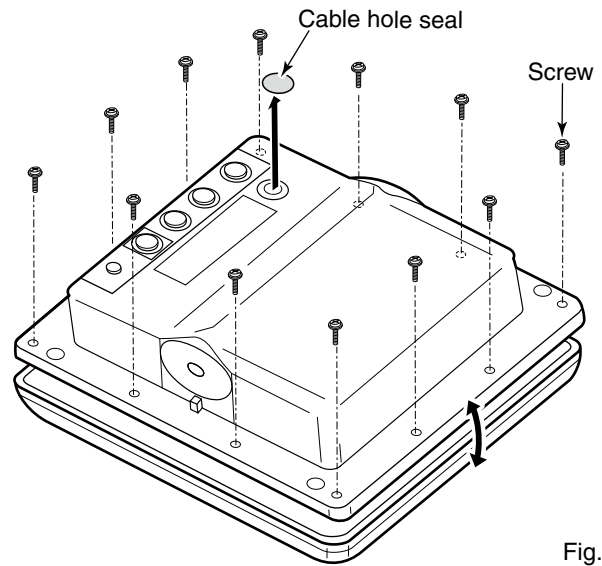

Fig. 1
- ① Remove the cable hole seal to the left of the display unit's serial number label. (Fig. 1)
- ② Remove the 12 screws from the display unit's rear panel. (Fig. 1)
- ③ Slowly open the rear case and disconnect the four connectors from the display's main board. (Fig. 1)